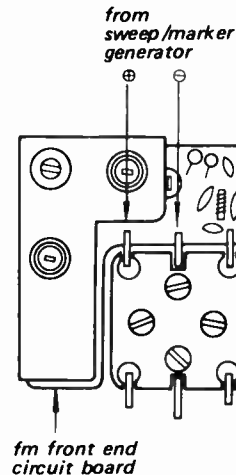

Fig. 3-3. Sweep/marker generator connection
1. Sweep/Marker Generator Connection : Across the tuning capacitor as shown in Fig. 3-3